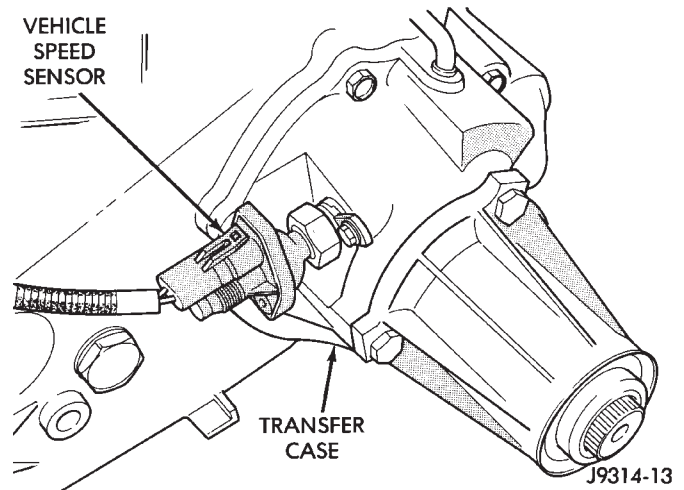

Fig. 27 Vehicle Speed Sensor—Typical
(24) Raise and support the vehicle.
(25) Inspect for pinched or leaking fuel tubes. Inspect for pinched cracked or leaking fuel hoses.
(26) Inspect for exhaust system restrictions such as pinched exhaust pipes, collapsed muffler or plugged catalytic converter.
(27) If equipped with automatic transmission, verify that electrical harness is firmly connected to park/neutral safety switch. Refer to Automatic Transmission section of Group 21.
(28) Verify that the harness connector is firmly connected to the vehicle speed sensor (Fig. 27).